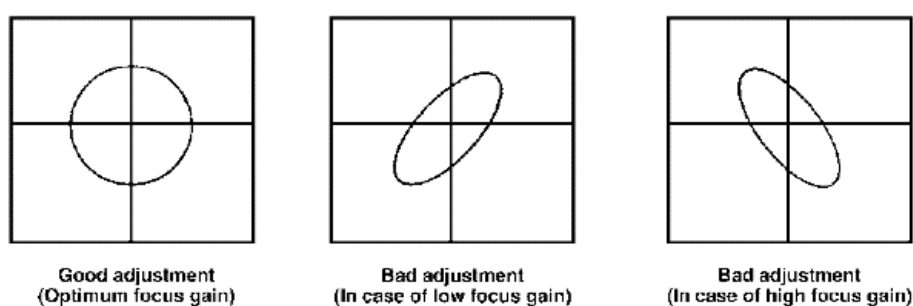

FIGURE 30-50 Adjust VR502 so that the waveform is a complete circuit in this CD player.
- 7 Adjust VR502 so that waveform on the scope becomes like Fig. 30-50.